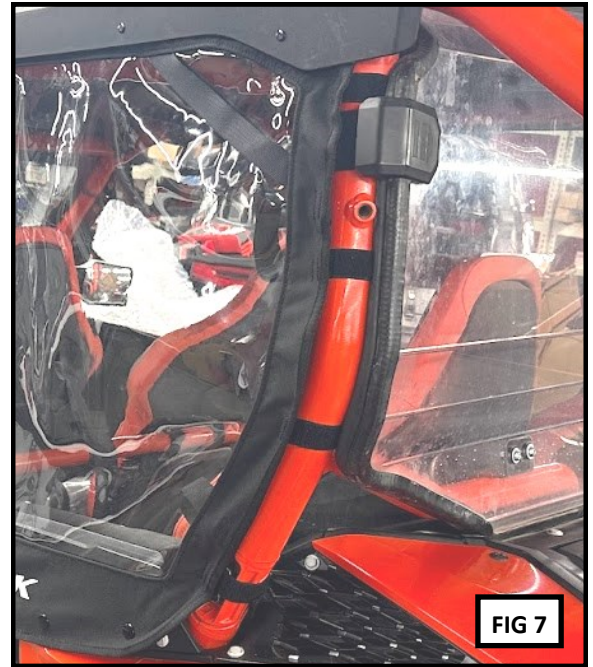

FIG 7
9. Now that you have the door skins installed by the magnets it is time to secure the hook and loop straps to the roll cage. There are two longer straps on each door skin, the rest are shorter. The shorter straps go around the roll cage. The longer straps are used when the window is rolled back for a stowed position. **FIG 7**